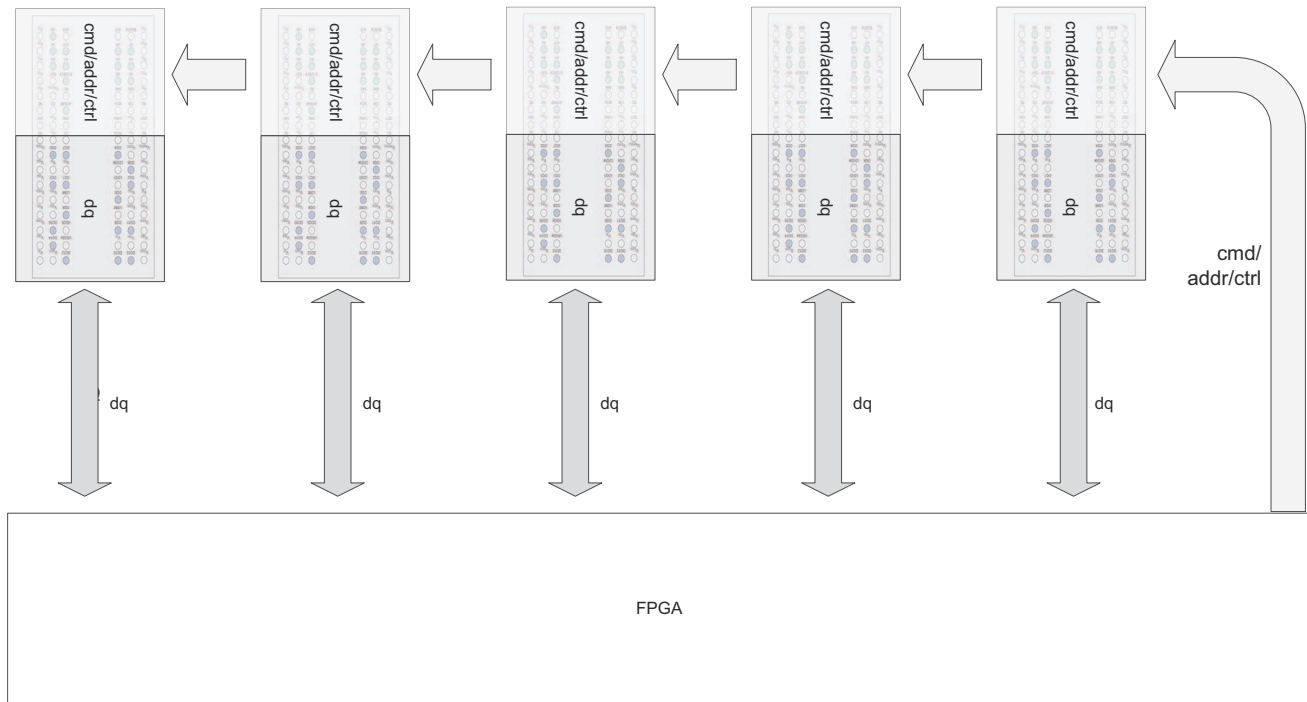

Figure 4-10: Component Placement Recommendations for Five Components with Fly-By Topology
7. To optimize the component placement, the recommendations for one component is shown in Figure 4-9. For five components with fly-by topology, it is shown in Figure 4-10.